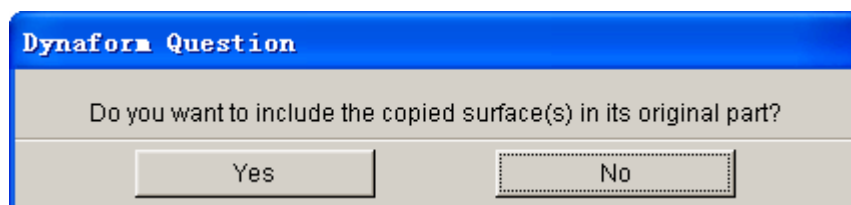

Figure 5.2.4 Copy Question
- Select YES or NO in the DYNAFORM Question window to determine where the surfaces are included. See Figure 5.2.4.